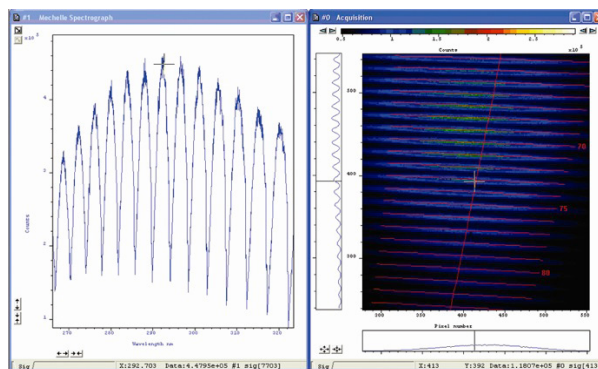

Figure 23: Deuterium CW Light Source Spectrum
The effect of the grating efficiency can be clearly observed when a **Continuous Wave (CW)** light source is used. **Figure 23** below shows a typical spectrum of deuterium CW light source. Echelle grating efficiency can be corrected with the aid of Standard lamps (also known as “black body” lamps) and software logarithm.